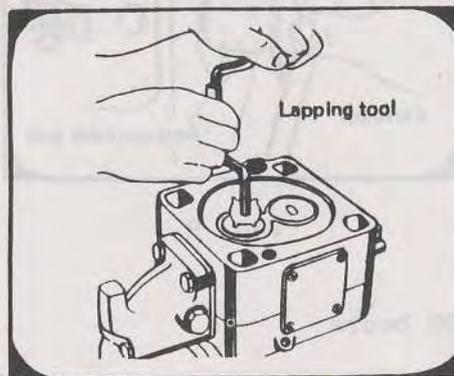

Fig. 8
- (b) First lap with rough lapping powder and then with fine lapping one and finally with lub. oil so as to obtain even lap on the seat face, as shown in Fig. 8.